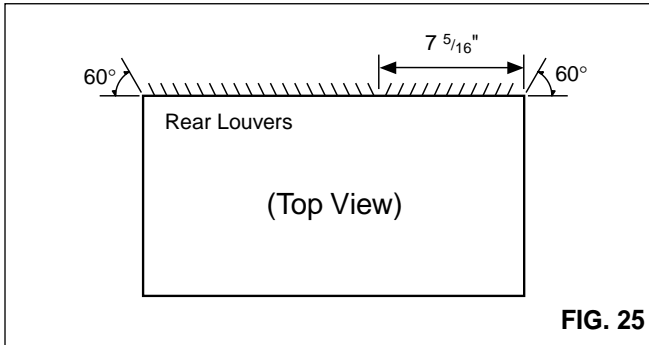

FIG. 25
- 1 Redirect the louvers at the back of the wall sleeve to 60° angle as shown in the FIG 25. The use of pliers is recommended.